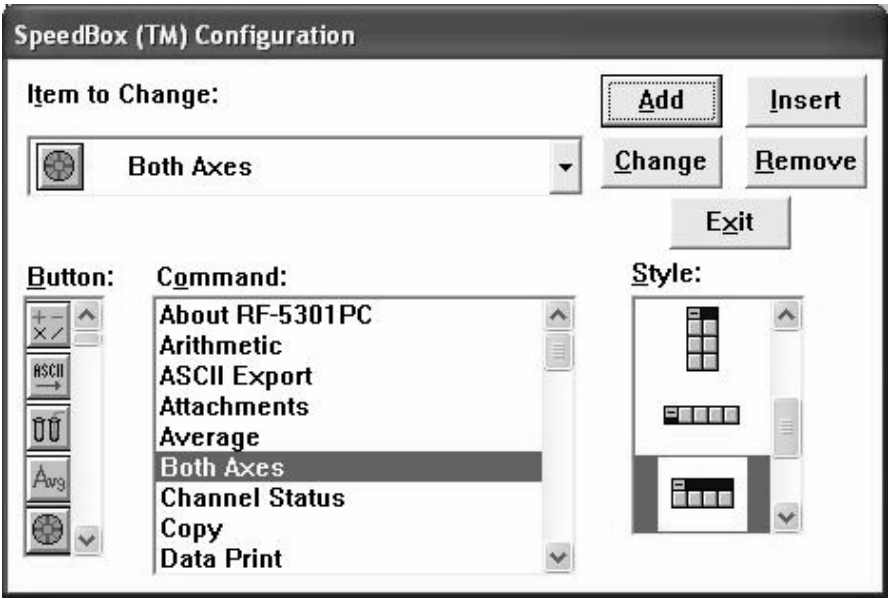

Fig. 7.23 SpeedBox(R) Configuration dialog box
7.4.4 SpeedBox(R) Configuration
The SpeedBox(R) Configuration dialog box (Fig. 7.23) allows the user to select the appearance, functions and style of the buttons that constitute the SpeedBox(R). The commonly used commands can be assigned in advance to graphical buttons using the SpeedBox(R) Configuration dialog box, and then, any of these commands can be readily executed by simply clicking the corresponding button. To move the position of the SpeedBox(R) on the screen or to specify whether or not the SpeedBox(R) is displayed, select "Show SpeedBox(R)" from the "Presentation" menu.